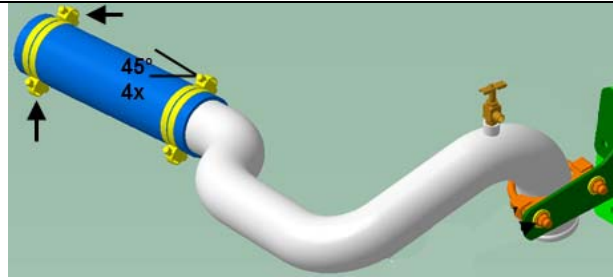

FIGURE 20
*Note: Pay attention to the position of the hose clamps. Refer to FIGURE 20. The screw should be oriented to 45°.*